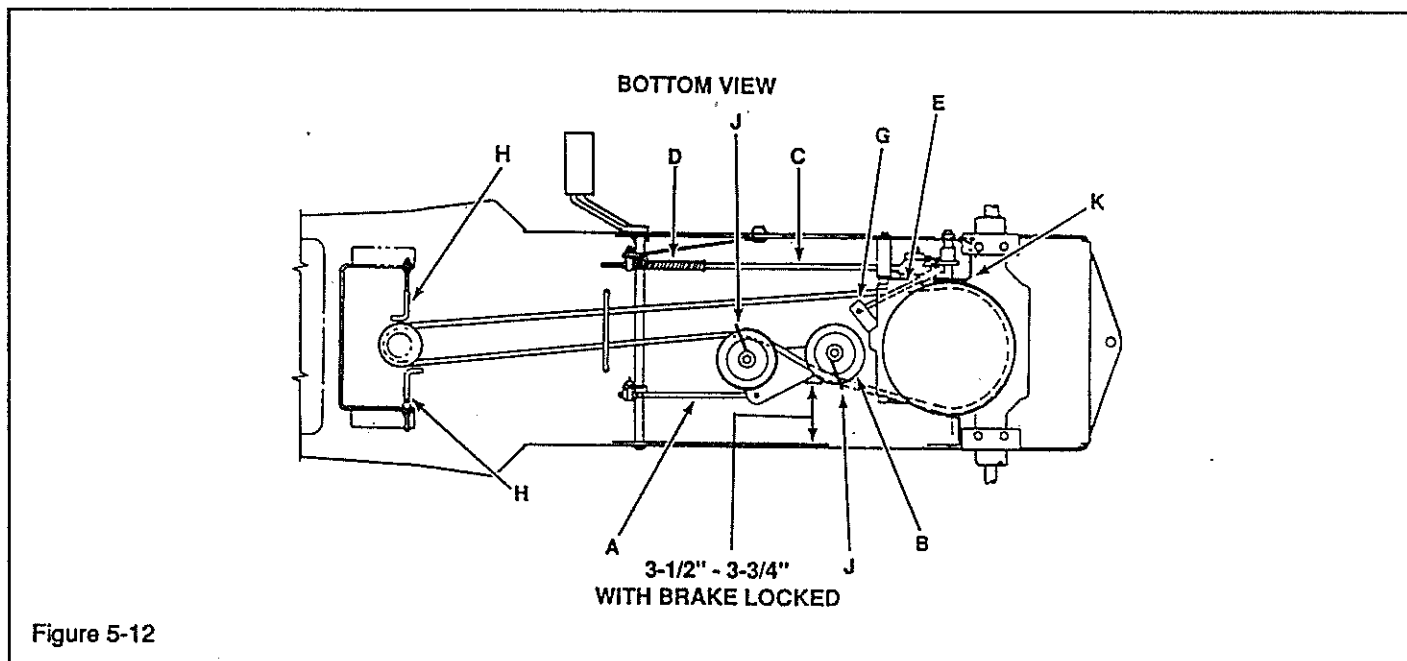

Figure 5-12
- To reach this travel, adjust nuts (B).
- With rod (C) of brake removed, total travel of brake arm from side to side should not be more than  $7/8"$  (22 mm).
- With brake lock engaged, adjust clutch rod (A, Figure 5-12), provide a clearance of  $3-1/2"$  to  $3-3/4"$  between idler (B) and inside of side frame.
- With brake disengaged, adjust brake rod (C) so that arm on transmission is vertical. Brake spring (D) should be compressed to approximately 5" long.
- With shift lever (G) in the neutral detent, adjust shift rod (E) until the transmission reaches neutral position.